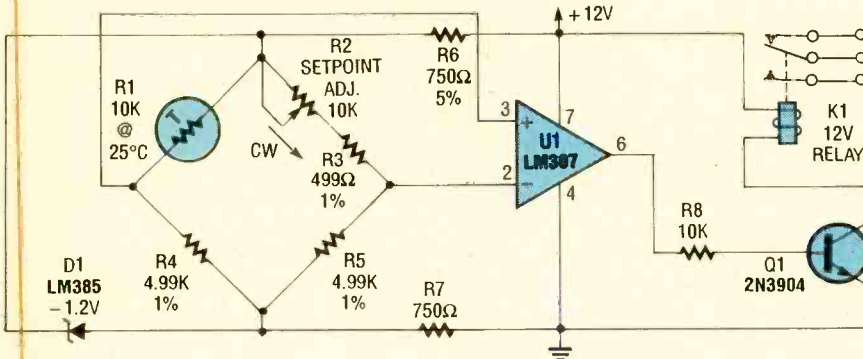

Fig. 4. By using a bridge circuit in between, a thermistor can provide input to a comparator to yield on-off operation of a device.
**Temperature Control.** Adding an op-amp and a relay to the thermistor bridge creates a low-cost on-off temperature controller (see Fig. 4). The relay will switch when the thermistor's resistance equals R2 plus R3 (i.e. RC) which occurs at the bridge's null point. Since